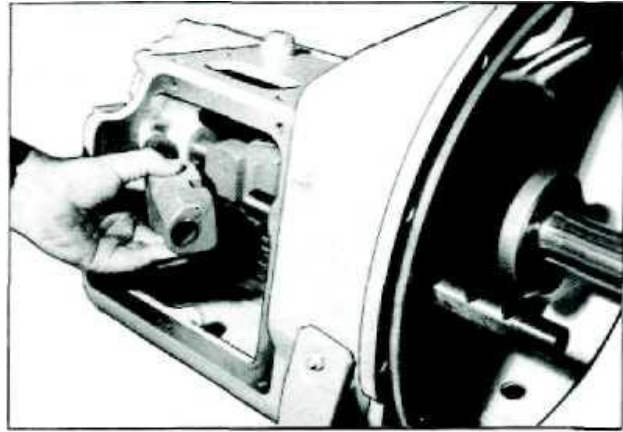

Fig. G.10 — Removing Selector Fork.
- (1) Remove the gear box side cover.
- (2) Unlock and slacken the setscrews in each selector fork.
- (3) Remove the two selector plunger plugs and springs from the top of the housing.
- (4) Remove the interlock housing from the clutch compartment (2 bolts). Collect the interlock bar.
- (5) The shifter rails may now be drawn through into the clutch compartment and the selector forks and plungers withdrawn through the side opening. (See Fig. G-10).